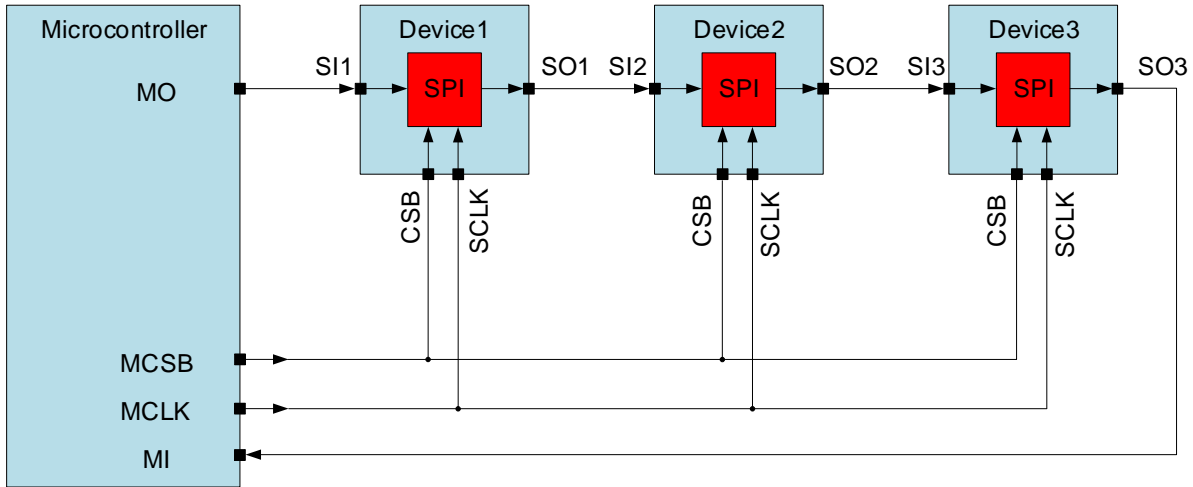
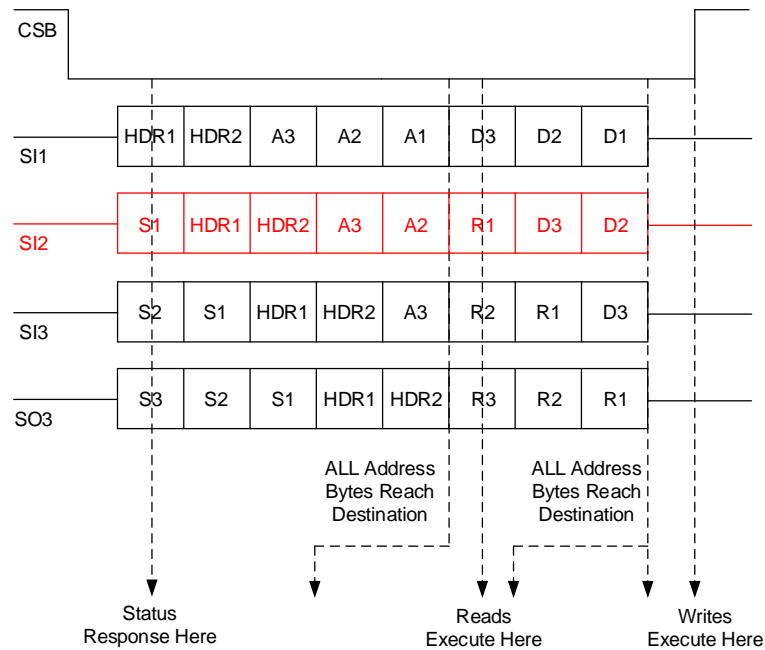

Figure 19. SPI Daisy Chain
Figure 20. Daisy Chain SPI Operation
The device supports daisy chain operation with devices with the same SPI protocol shown in Figure 20. The master output (MO) is connected to a slave SI and the first slave SO is connected to the next slave SI to form a chain. The SO of the final slave in the chain will be connected to the master input (MI) to close the loop of the SPI communication frame. In daisy chain configuration, a single chip selects, CSB, and clock signal, SCLK, connected in parallel to each slave device, are used by the microcontroller to control or access the SPI devices. Figure 19 shows the topology when 3 devices are connected in series with waveforms.
The first device in the chain shown above receives data from the master controller in the following format. See SI1 in Figure 20.
After the data has been transmitted through the chain, the master controller receives it in the following format. See SO3 in Figure 20.
The device can count the number of Status bytes behind the Header byte to recognize its position. As shown in Figure 20, the device 2 has One Status bytes ( $S_1$ ) behind the Header byte and the device 3 has Two Status bytes ( $S_1$ ,  $S_2$ ) behind the Header byte. When the device knows about its position and the number of devices connected in the chain, the device could load the relevant address and data byte in its buffer and bypasses the other bits. In this way, even the chain has 63 devices, the device still works fleetly.